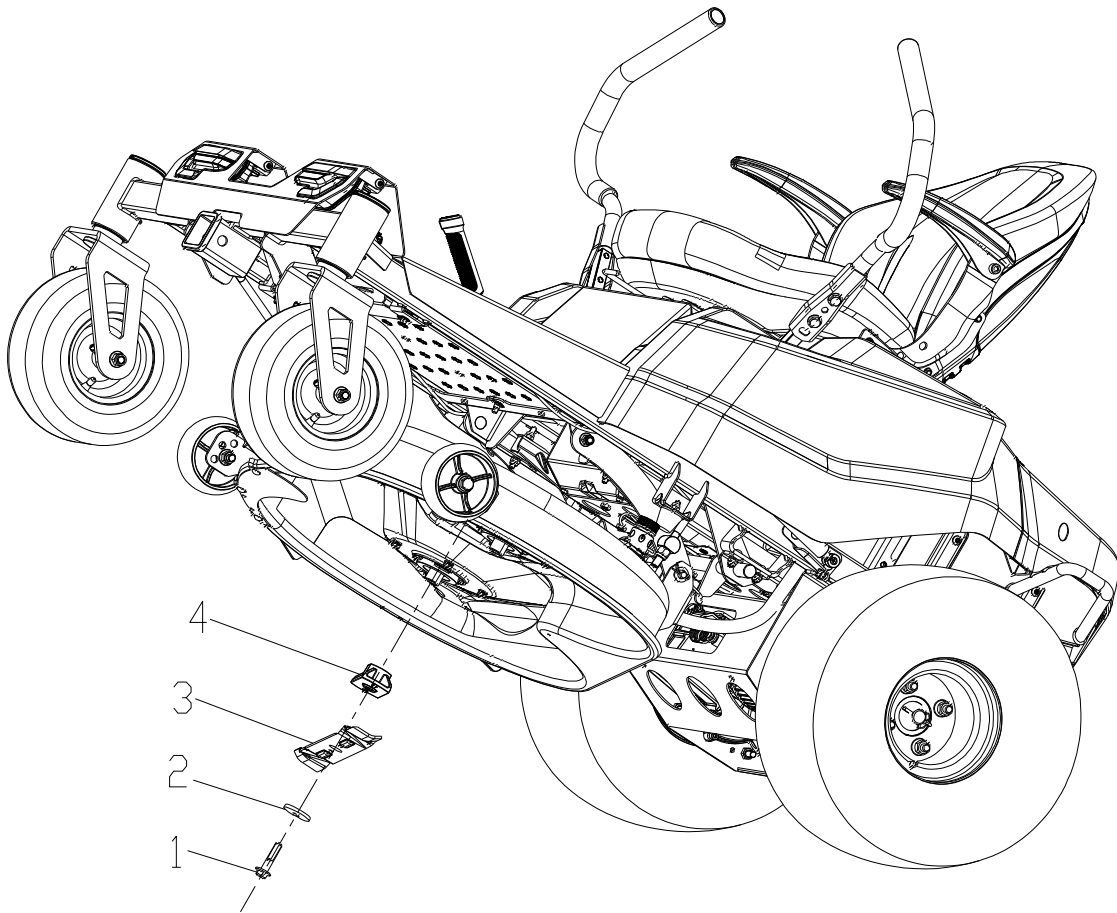

Fig. 1
- Put the washer (2), the blade (3), and the blade holder (4) on the bolt (1) in the order as shown in the Fig. 1, and screw the bolt (1) into the threaded hole of the motor shaft.
- With protective gloves on, hold the end of the blade (3) with one hand and tighten the bolt (1) with a 16mm socket by rotating clockwise, with a fastening torque of 90-100N·m.